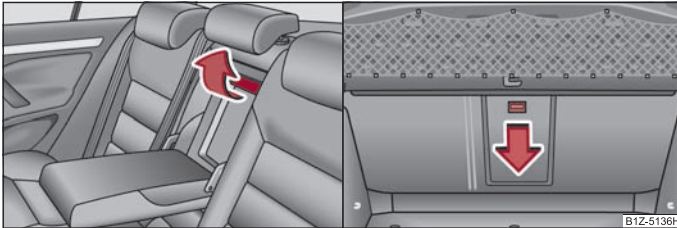

Fig. 78 Rear seats: Cover handle/luggage compartment: Unlock button
- Pull the handle up to the stop in upward direction and fold open the lid downwards ⇒ fig. 78 - left.
- Push the unlock button downwards ⇒ fig. 78 - right and fold the lid (with armrest) to the front.